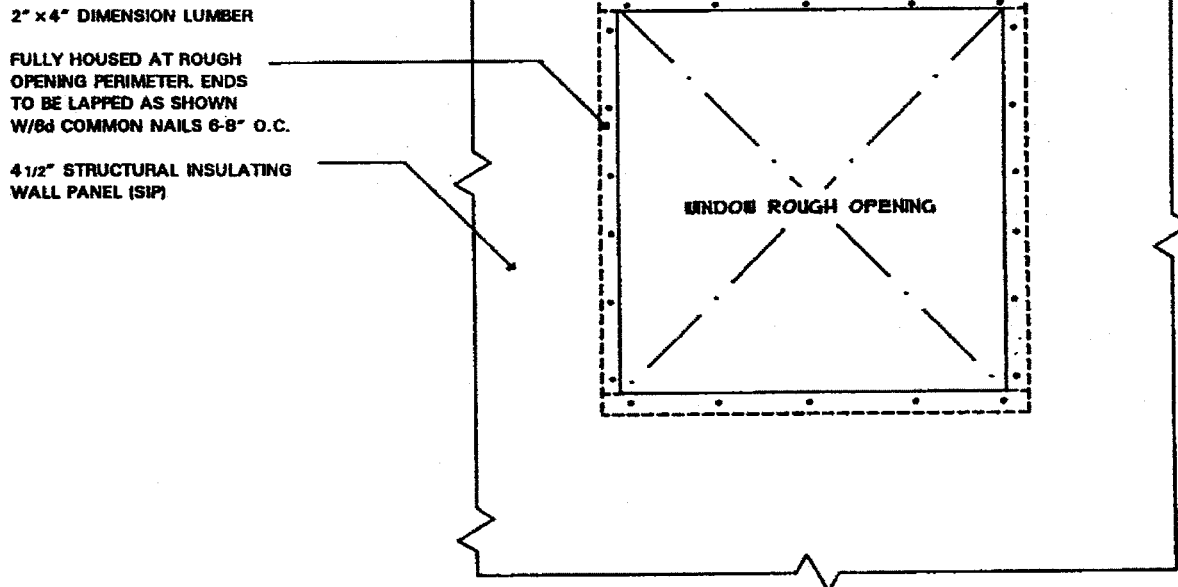

FIGURE 5\*—FRAMING AT ROUGH OPENINGS FOR WINDOWS AND DOORS
- Openings in the Murus Panels for door and windows shall be rough framed with 2-inch by 4-inch dimension lumber embedded into the foam core of the panel in the same manner as the top and bottom in-let plates. The lumber framing shall be provided on all sides of the opening, as shown in Figure 5 of this report, and shall be secured to the OSB faces of the panel on both sides with 6d nails at 8 inches on center, staggered.
2. The size of the door and window openings shall not exceed those shown in Figures 6 and 7 of this report, and the opening shall be rough framing with 2x4 dimension lumber, as shown in Figure 5 of this report.